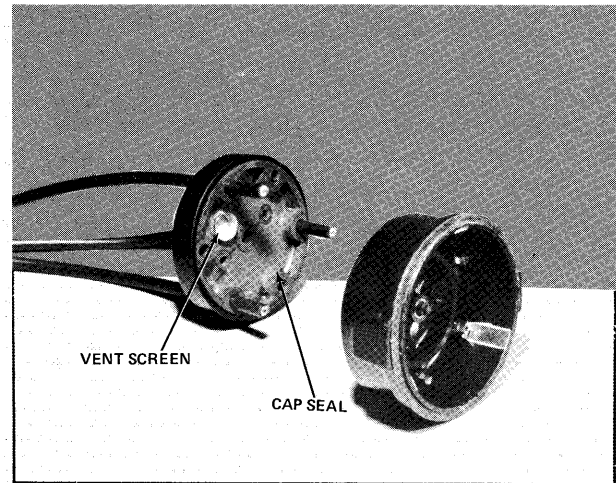

Figure 1 - Installing Lead Wires
- A. Insert lead wires in through cap cover and seal being certain to align screw holes (cover to cap) and vent hole in cover with vent screen in seal. Allow at least one (1) inch of lead wire to extend through cap seal as shown in figure 1.
- C. Draw distributor cover against cap using two (2) screws and tighten until screws are bottomed.